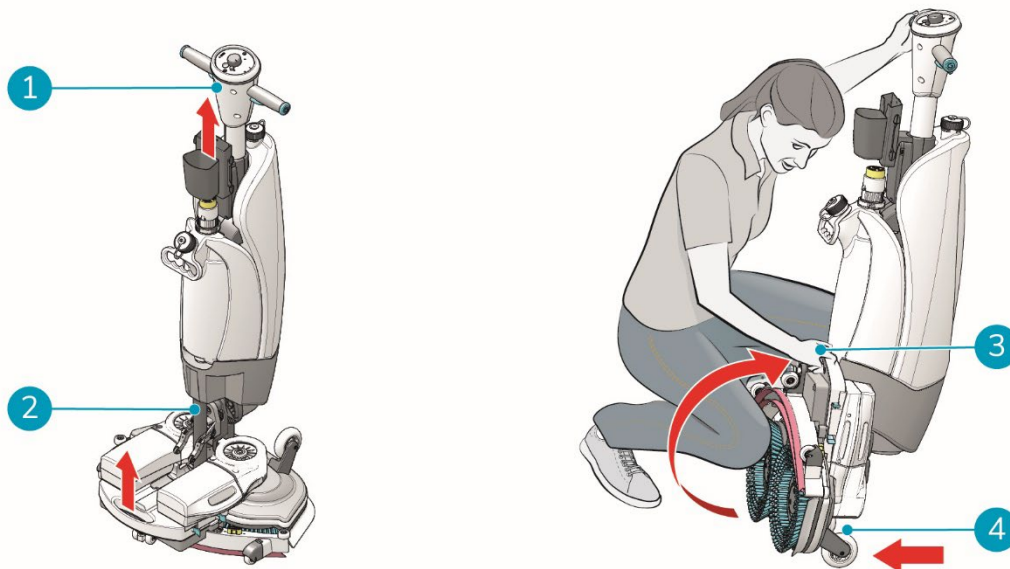

Figure 6
1. Make sure the vacuum hose (Figure 6, pos 2) is pushed back into the machine so it cannot get squeezed.
2. Crouch down and hold the handle (Figure 6, pos 1) with one hand while holding the scrub deck (Figure 6, pos 3) with your other hand.